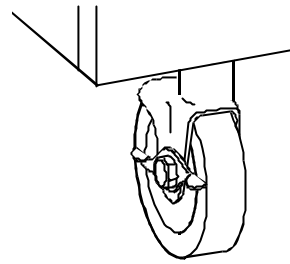

Figure 1
- 1) The freezer is equipped with pivoting casters to allow for ease of movement. When placed in its final location, lock the caster brakes to prevent unwanted movement of the freezer. (Refer to Figure 1)